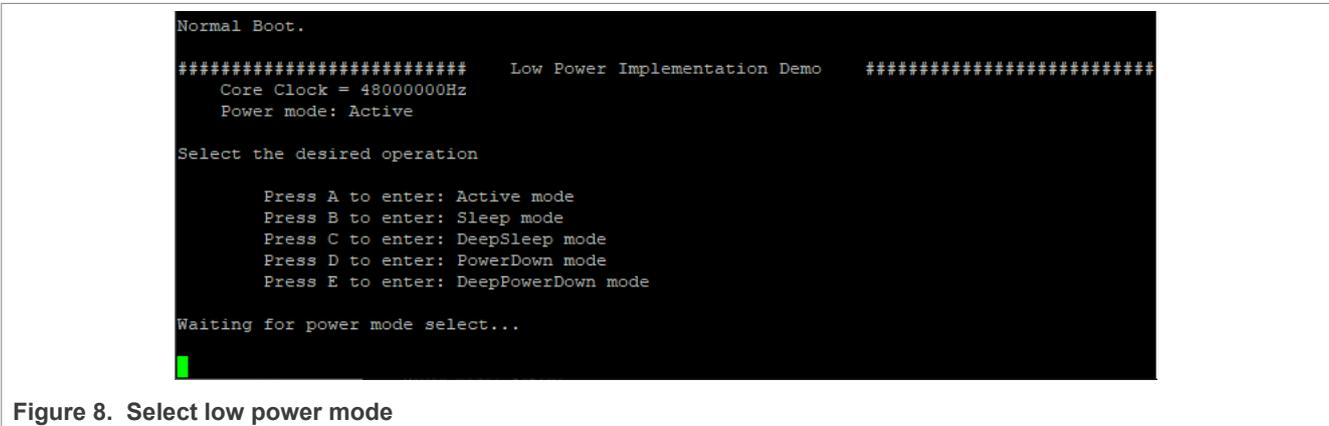

Figure 8. Select low power mode
2. Follow the prompts in Figure 8. To enter a different Low Power mode, enter one from A to E.